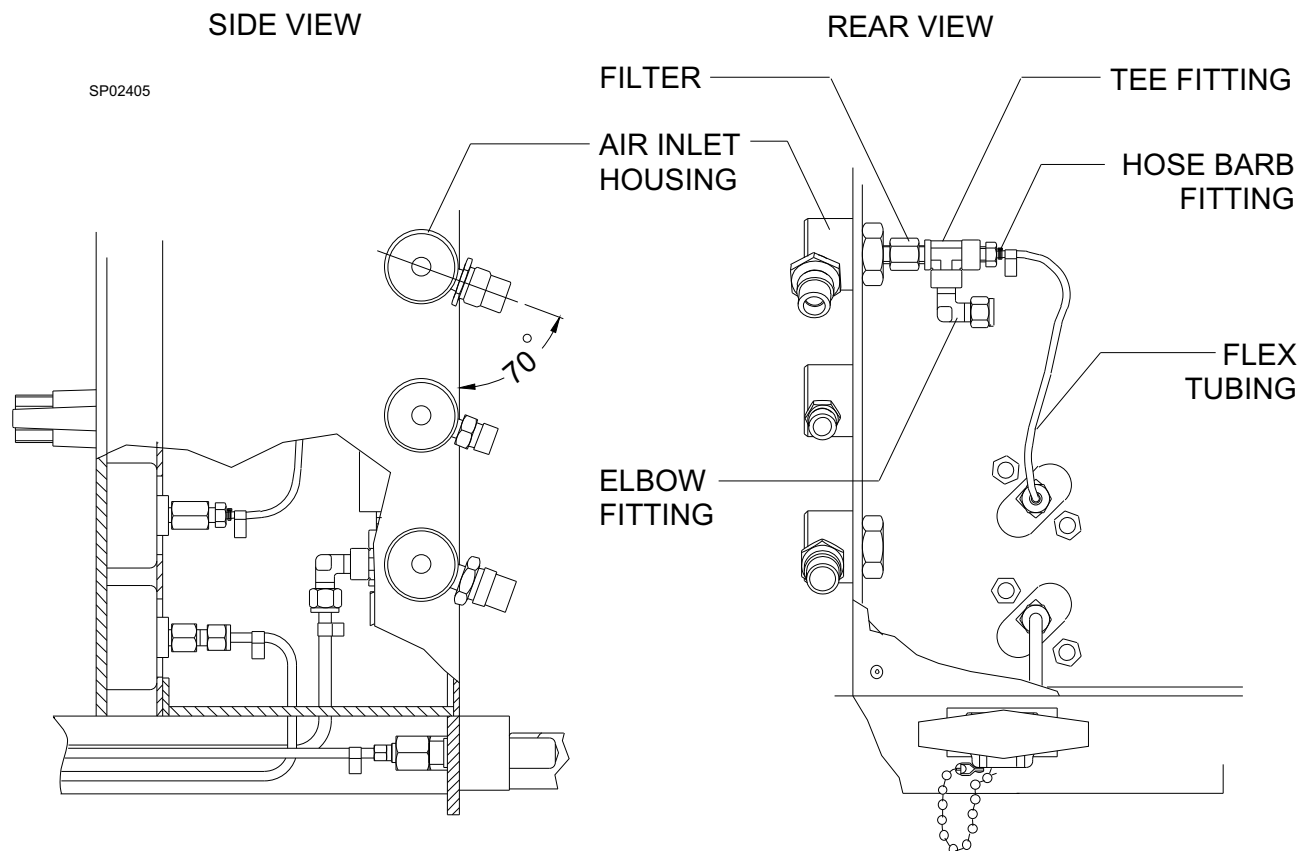

Figure 5: AIR PIPE LINE INLET ASSEMBLY
25. Install a DISS air inlet housing in the hole where the plug was removed, using a 5/8-18 hex nut and lock washer. Orient the DISS connection at a 70° angle as shown in Figure 5. Ensure that the housing has a AIR label.
27. Install the tee fitting (P/N 4102760) as shown in Figure 5, with its side port facing downward.
28. Install a 1/8 NPT x 1/16 in. (P/N 4111771) hose barb fitting in the tee as shown in Figure 5. Use a small amount of Loctite #271 (red) on the threads.
29. Install a 1/4 in. tube to 1/8 NPT (P/N 4109410) ell fitting in the remaining port in the tee as shown in Figure 5. Use a small amount of Loctite #271 (red) on the threads.